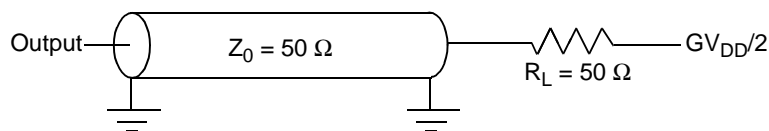
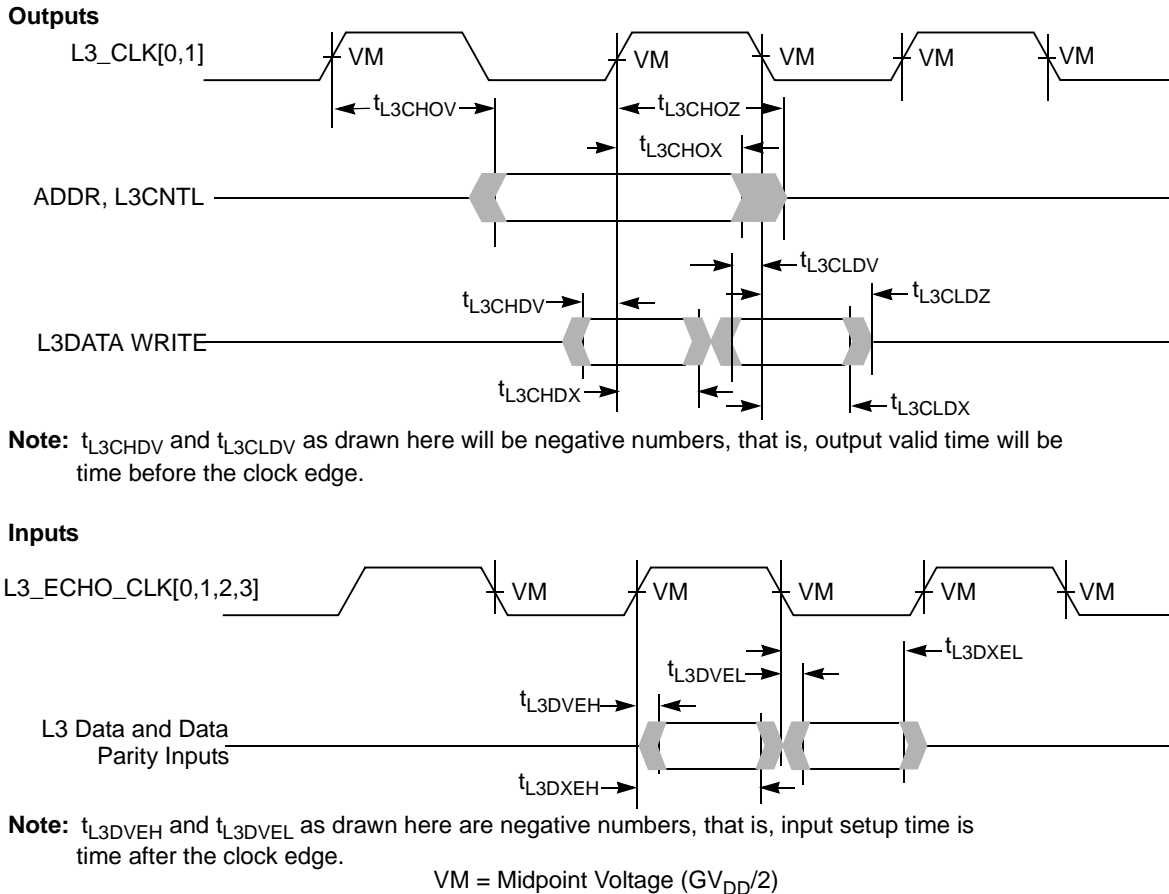
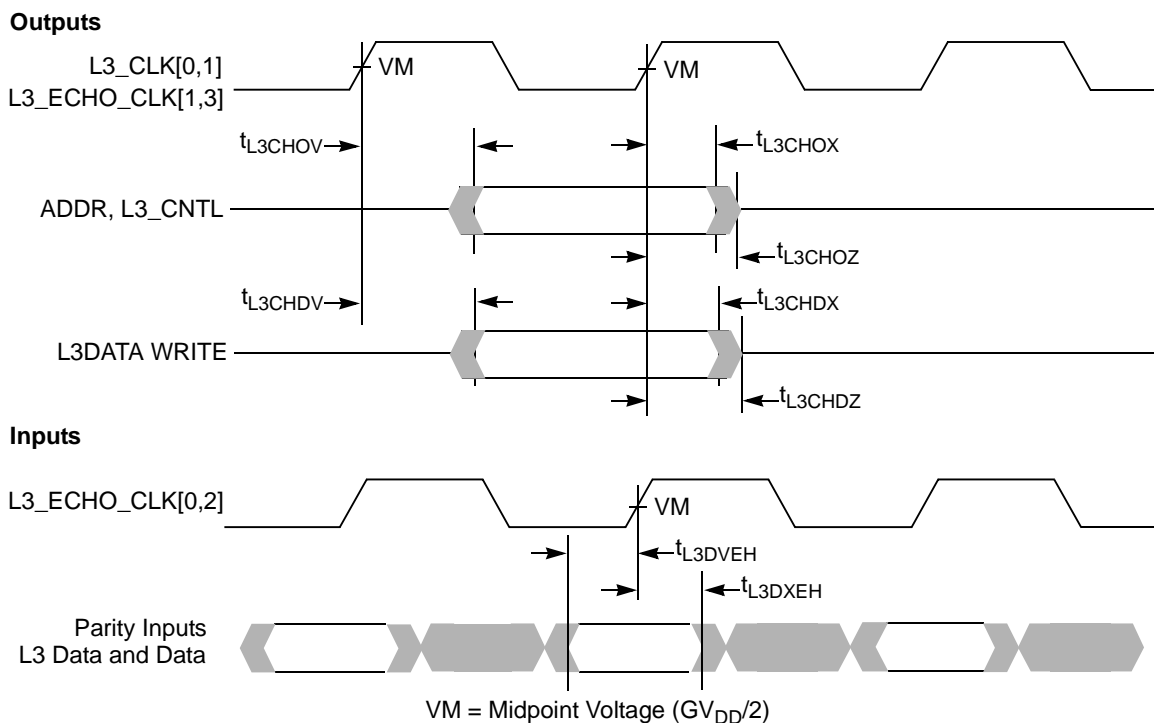

Figure 8. AC Test Load for the L3 Interface
Figure 10. L3 Bus Timing Diagrams for L3 Cache DDR SRAMs
Figure 12. L3 Bus Timing Diagrams for Late Write or PB2 SRAMs
- For high speed operations, L3 interface address and control signals should be a ‘T’ with minimal stubs to the two loads; data and clock signals should be point-to-point to their single load. Figure 8 shows the AC test load for the L3 interface.
Table 13 provides the L3 bus interface AC timing specifications for the configuration as shown in Figure 9, assuming the timing relationships shown in Figure 10 and the loading shown in Figure 8.
2. For DDR, all input specifications are measured from the midpoint of the signal in question to the midpoint voltage of the rising or falling edge of the input L3\_ECHO\_CLK $n$  (see Figure 10). Input timings are measured at the pins.
3. For DDR, the input data will typically follow the edge of L3\_ECHO\_CLK $n$  as shown in Figure 10. For consistency with other input setup time specifications, this will be treated as negative input setup time.
5. All output specifications are measured from the midpoint voltage of the rising (or for DDR write data, also the falling) edge of L3\_CLK to the midpoint of the signal in question. The output timings are measured at the pins. All output timings assume a purely resistive 50- $\Omega$  load (see Figure 8).
6. For DDR, the output data will typically lead the edge of L3\_CLK $n$  as shown in Figure 10. For consistency with other output valid time specifications, this will be treated as negative output valid time.
Figure 10 shows the L3 bus timing diagrams for the MPC7457 interfaced to MSUG2 SRAMs.
Table 14 provides the L3 bus interface AC timing specifications for the configuration shown in Figure 11, assuming the timing relationships of Figure 12 and the loading of Figure 8.
3. All input specifications are measured from the midpoint of the signal in question to the midpoint voltage of the rising edge of the input L3\_ECHO\_CLK $n$  (see Figure 10). Input timings are measured at the pins.
4. All output specifications are measured from the midpoint voltage of the rising edge of L3\_CLK $n$  to the midpoint of the signal in question. The output timings are measured at the pins. All output timings assume a purely resistive 50- $\Omega$  load (see Figure 10).
Figure 12 shows the L3 bus timing diagrams for the MPC7457 interfaced to PB2 or Late Write SRAMs.